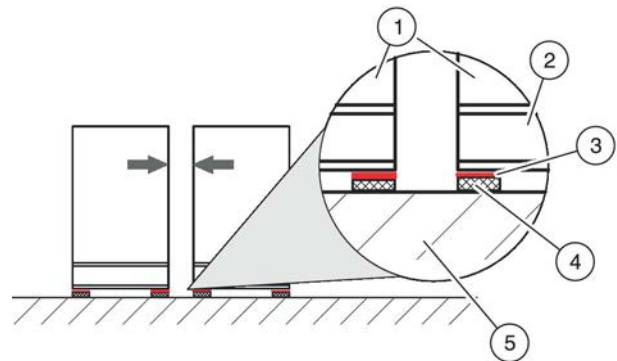

Fig. 14: Unit arrangement with anti vibration elements
Slide plates ( Fig. 14 /3) considerably simplify the process of positioning the casing units ( Fig. 14 /1) on a surface with a high friction coefficient, such as rubber or elastomer sheets ( Fig. 14 /4).
- ▶ Position the slide plates ( Fig. 14 /3, by others) under the base frames ( Fig. 14 /2) of the individual casing units ( Fig. 14 /1).